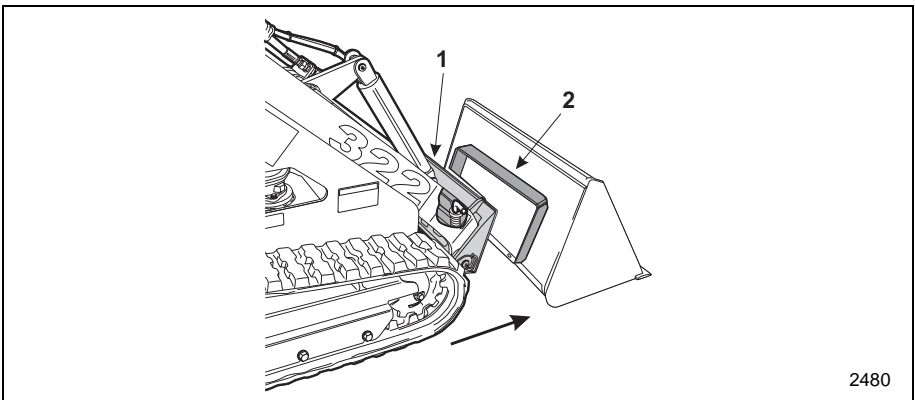

Figure 3–27 Non-powered Attachment Installation
3. Slowly drive towards the attachment and align the top edge of the male mounting plate (Item 1, Figure 3–27) and the upper lip of the female attachment mounting plate (Item 2, Figure 3–27). Tuck the upper edge of the male mounting plate into the upper lip of the female attachment mounting plate.